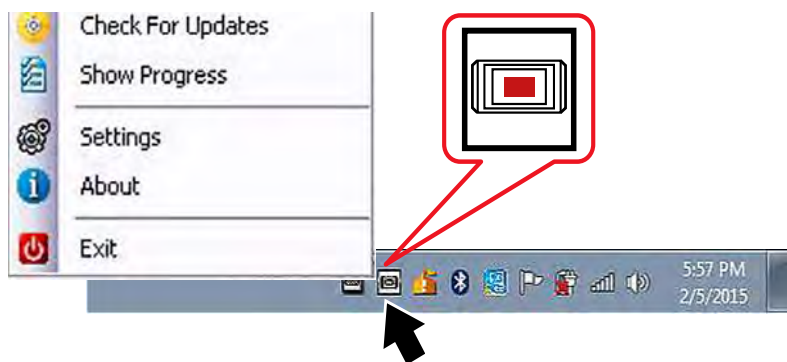
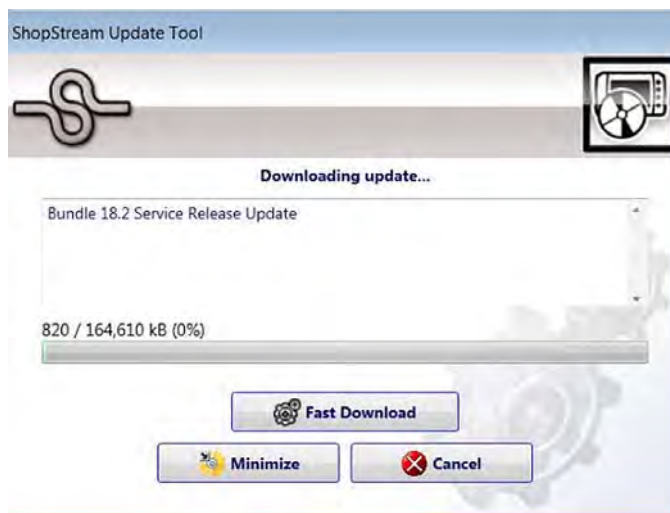

Figure 13-5 ShopStream Update Tool icon and menu
Figure 13-7 Typical - Update status window
1. Select the SST icon in the Windows taskbar notification area to open the menu (Figure 13-5).
- If updates are found, they will automatically begin to download (Figure 13-7).
To view the update status window (Figure 13-7), select **Show Progress** from the SST icon menu (Figure 13-5).
The percentage status bar may not always be displayed while downloading (Figure 13-7).